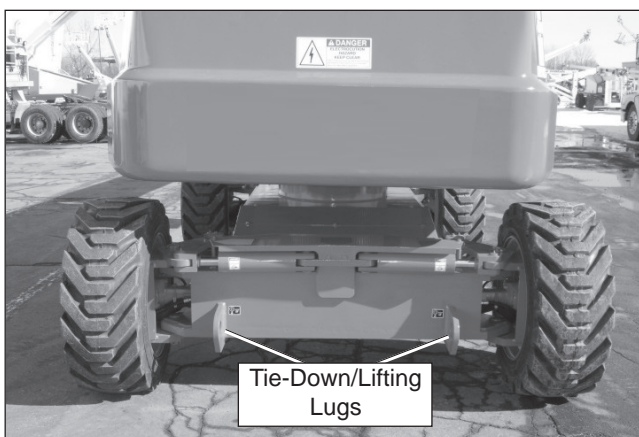
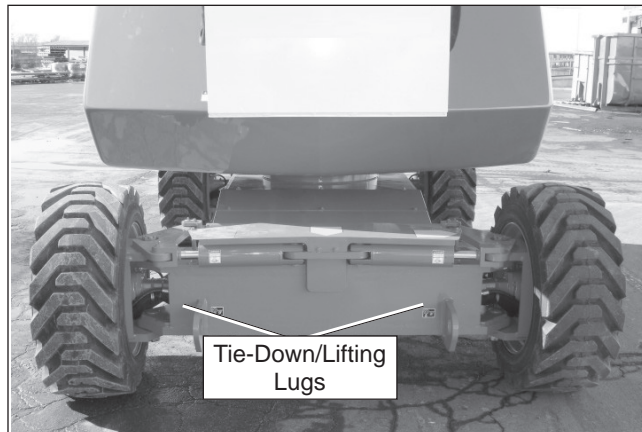

Figure 9.3 – Front Tie-Down/Lifting Lugs
Figure 9.5 – Rear Tie-Down/Lifting Lugs
5. Attach the winch to the tie-down lugs (refer to Figure 9.3) on the front of the chassis.
2. Inspect the front lifting lugs (refer to Figure 9.3) and the rear lifting lugs (refer to Figure 9.5) to make sure they are free of cracks and are in good condition. Have any damage repaired by a qualified service technician before attempting to hoist the machine.